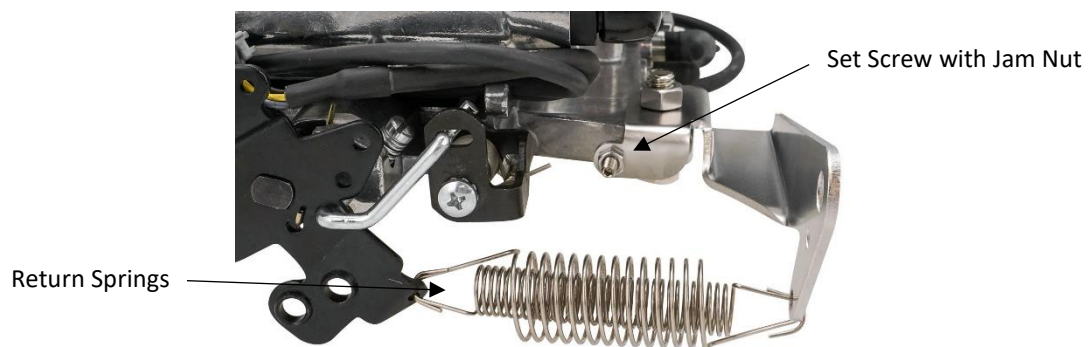

Figure 4
4. Connect the rear ends of the return springs to the lowest hole in the throttle cable bracket. Connect the front ends of the return springs to the small hole at the rear edge of the lower part of the throttle lever. See *Figure 4*.